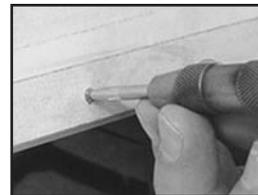

Figure 3
5. To avoid the drill slipping on the fender, use the Center Punch to make an impression at the center of your mark. Drill holes through the fender at the marks. **Figure 3**
Due to close clearances between front fender and tire, place block of wood between the fender and the tire to avoid tire damage. Figure 3